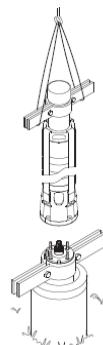

Fig. 3: Lifting the pump into correct position
- Lift the pumping part using the pipe clamps attached to the extension tube, see Fig 3.